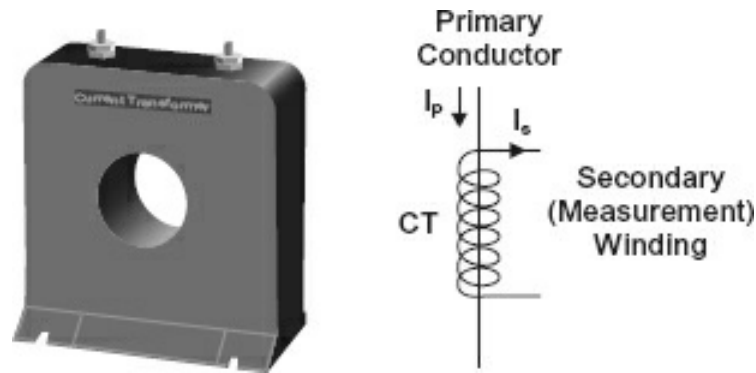

Figure 5-10. Typical CT.
A current transformer (CT) produces an output in proportion to the current flowing through the primary winding. The CT is an instrument transformer designed to generate an AC in its secondary winding that is proportional to the current flowing in its primary winding. CTs reduce high-voltage currents to a much lower value and provide a method of safely monitoring the actual high-potential electrical current flowing in an AC load using a standard ammeter. A typical CT is illustrated in Figure 5-10.
The principle of operation of a basic CT is slightly different from that of an ordinary voltage transformer. The difference between previously described transformers and the CT is that the CT primary winding consists of only one or very few turns. This primary winding can be a coil of wire wrapped around the core or just a conductor or bus bar placed through a central hole in the CT as shown in Figure 5-10.